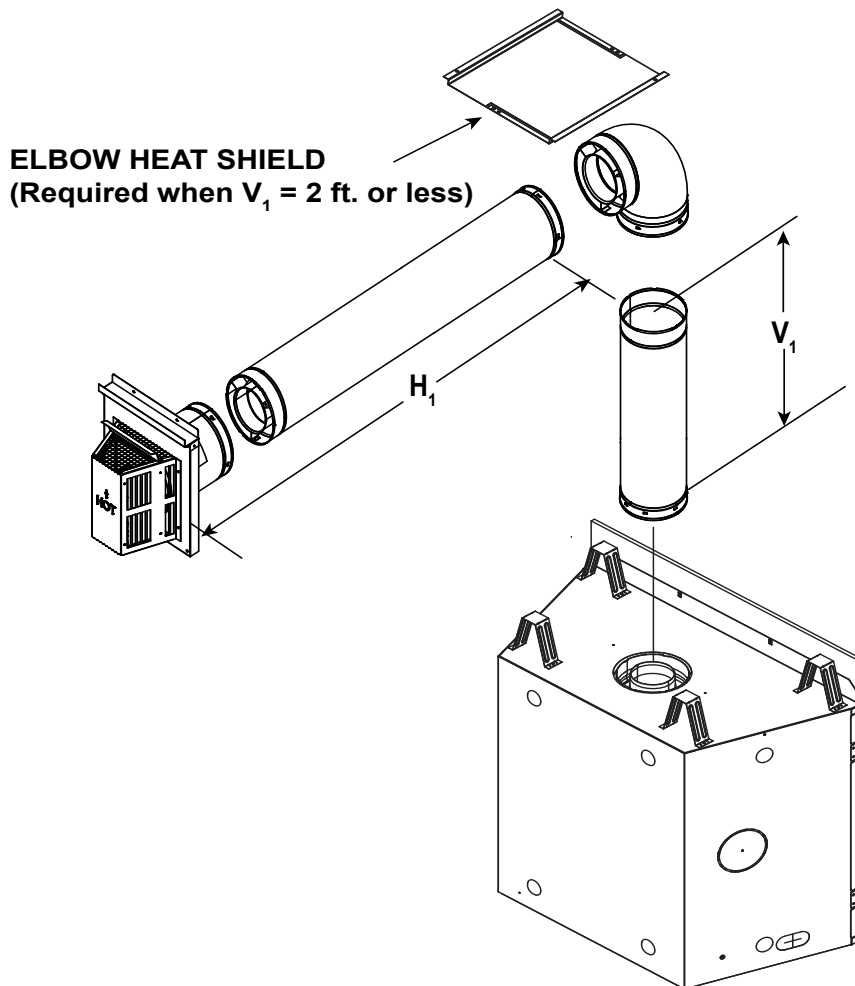

Figure 4.10
**WARNING! Risk of Fire! Elbow heat shield required when  $V_1 = 2$  ft. or less. Clearances to combustibles must be maintained. See Figure 4.10.**